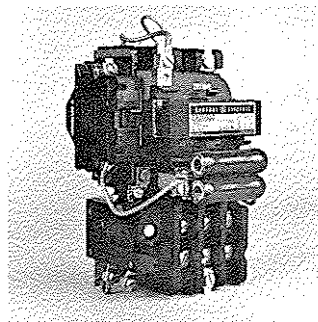

Figure 3.
7. Insert dove-tail bracket of the heater into keyed slot at top of the molded cover as shown in Figure 3. Reassemble starter (or contactor).
3. Insert dove-tail bracket of the heater into keyed slot at top of the molded cover as shown in Figure 3. Reassemble starter (or contactor).